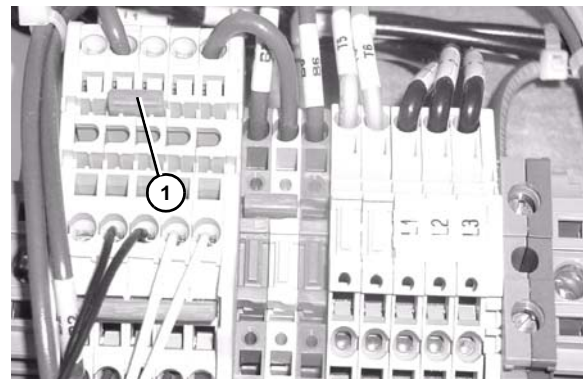

Figure 18
Jumper in the “Left” or blue port position (Figure 18, item 1). The user selectable port will function the same as the blue port.